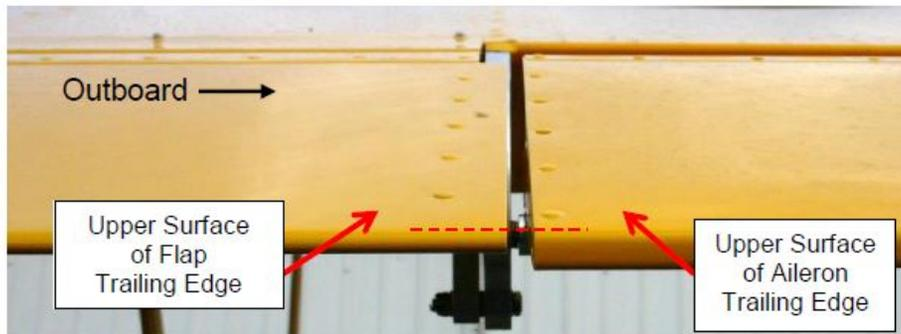

Figure 23 – Aileron Rigging
- (c) Adjust the aileron such that the upper surface of the trailing edge of the aileron is at the same level as the upper surface of the trailing edge of the flap (see Figure 23).